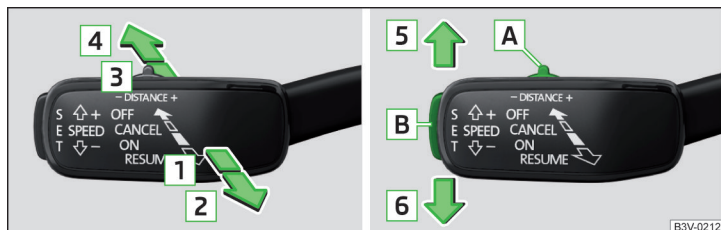

Fig. 283 Operating lever
### Overview of ACC functions operated with the lever » Fig. 283
- Press the button **SET** » Fig. 283 on page 236 .
- **or:** Set the lever into the sprung position **RESUME** » Fig. 283 on page 236 .
- Set the lever into the sprung position **CANCEL** » Fig. 283 on page 236 .
The desired speed can be set or changed using the control lever » Fig. 283 on page 236.
› Set the switch **DISTANCE** Adjust in the spring-tensioned position - or + » Fig. 283 on page 236.
Acceleration can be cancelled at any time by touch on the brake pedal or pressing the button **CANCEL** on the lever » Fig. 283 on page 236.